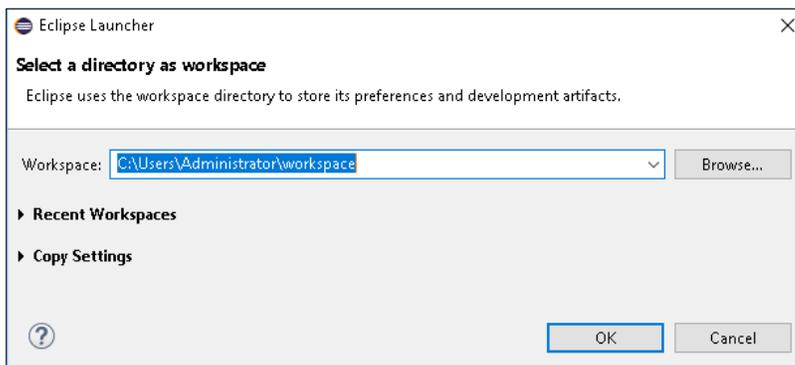

Figure 2. Eclipse Launcher dialog box.
3. Select **File > Switch Workspace > Other** from the menu bar. The **Eclipse Launcher** dialog box appears, as shown in **Figure 2**.